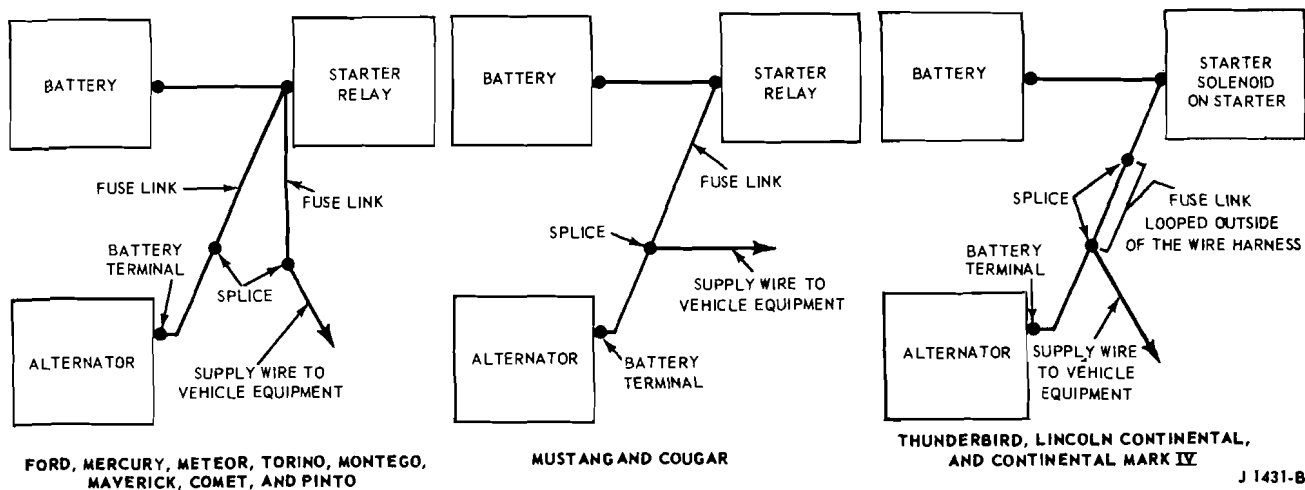

FIG. 1 Fuse Link Installation
wire or on the terminal insulator. Color identification of the flag or connector is Red—18 Ga. wire, Orange—16 Ga. wire, or Green—14 Ga. wire. Fig. 1 shows fuse link installations.
2. On the Ford, Mercury, Meteor, Torino, Montego, Maverick, Comet and Pinto, there are two fuse links (Fig. 1). Use the same procedure as in step 1 to test the fuse link that protects the vehicle equipment.